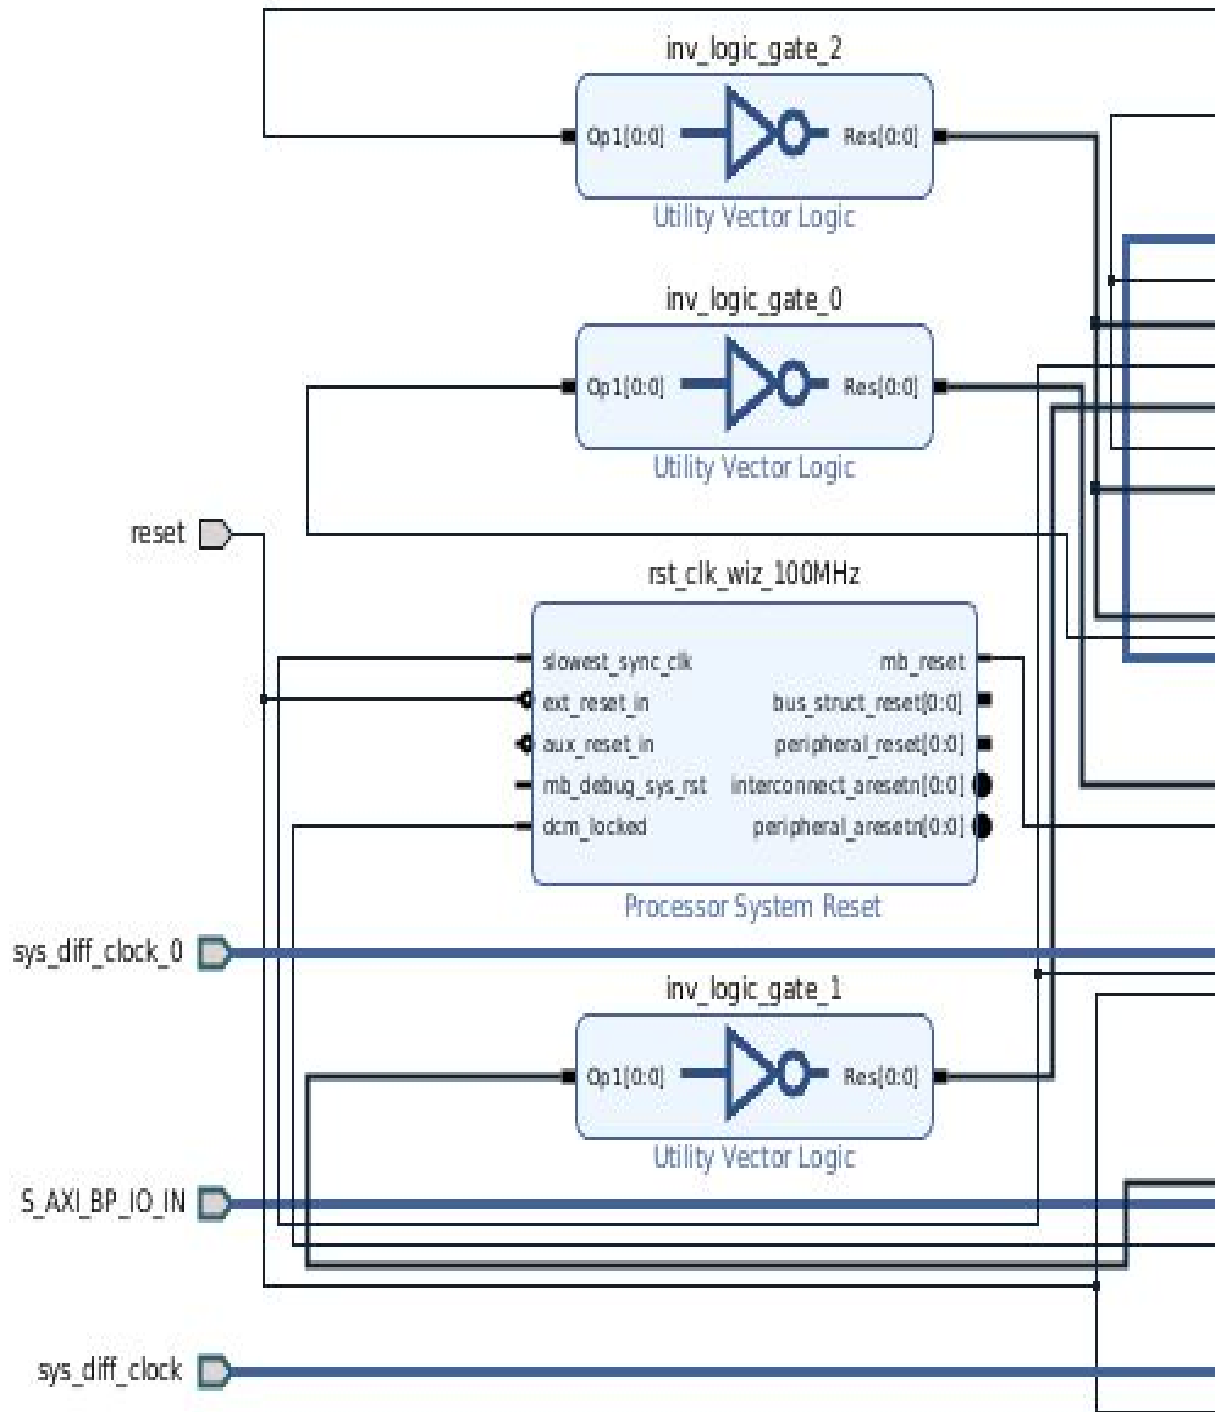

Fig. 5 Block design (left)
- 1) See Fig. 5 - 7 for the block design